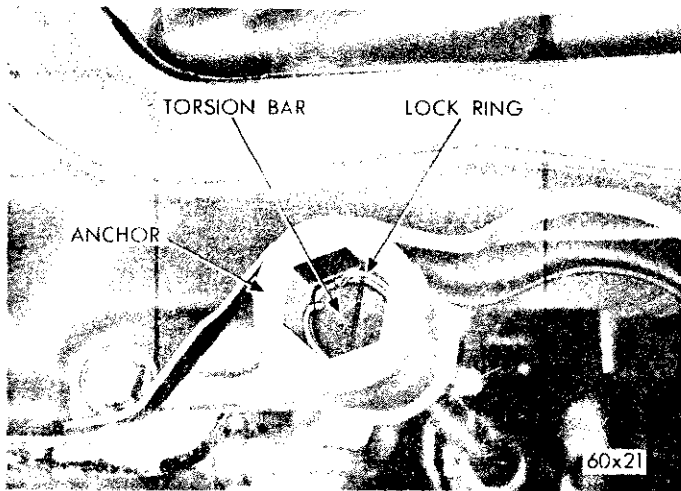

Fig. 7—Torsion Bar Lock Ring
(3) Remove the plastic seal from the rear end of the torsion bars anchor. Remove the lock ring from the rear of the torsion bar anchor (Fig. 7).